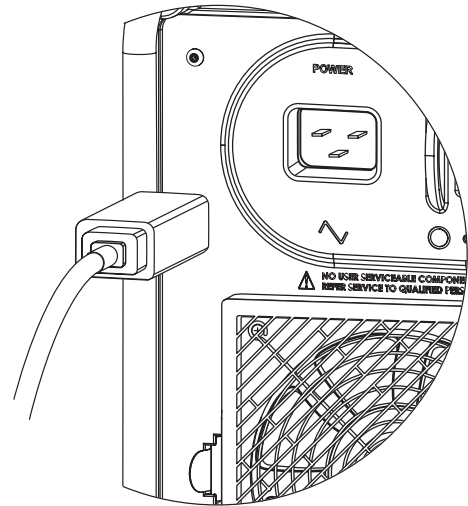

Fig. 6—Connecting the Power Cord
2. Make sure the power switch on the left side of the M200 power supply is in the OFF (O) position.
3. Connect the power cord to the power connector on the side of the unit (Fig. 6).